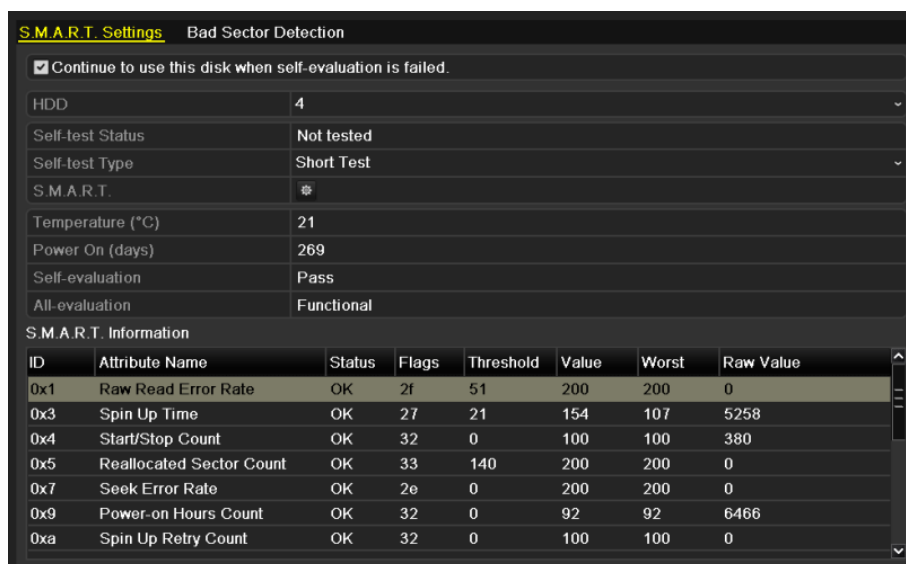

Figure 13. 21 S.M.A.R.T Settings Interface
2. Select the HDD to view its S.M.A.R.T information list, as shown in Figure 13. 21.